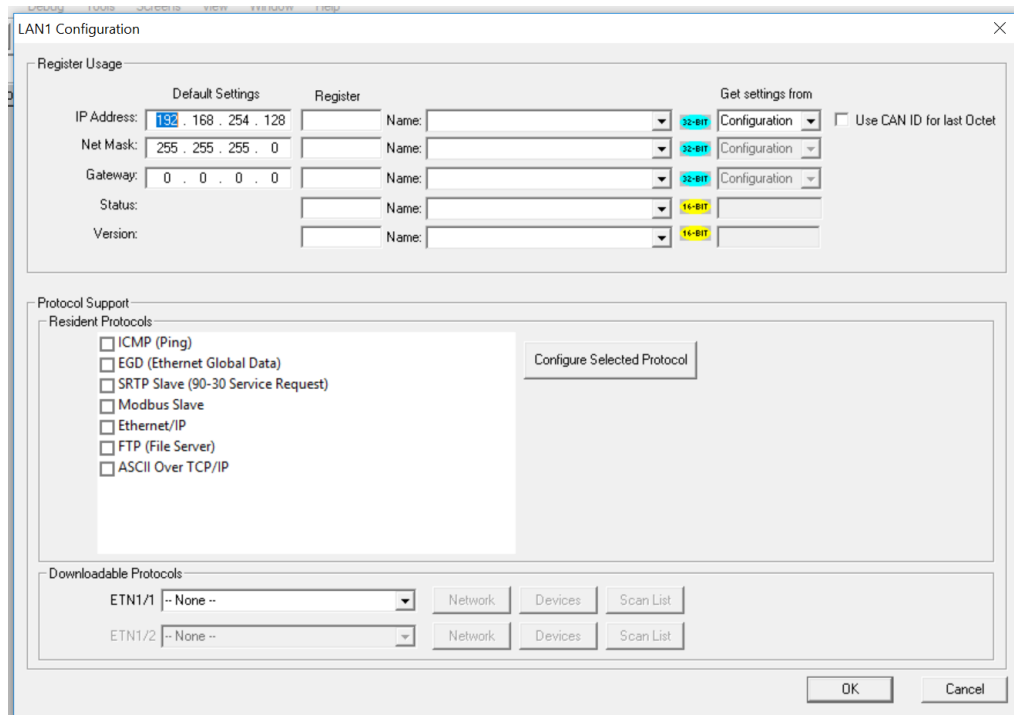

Figure 12.3 - Ethernet Module Configuration
2. Click the Config button to the right of LAN1, revealing the Ethernet Module Configuration dialog as shown in Figure 12.3